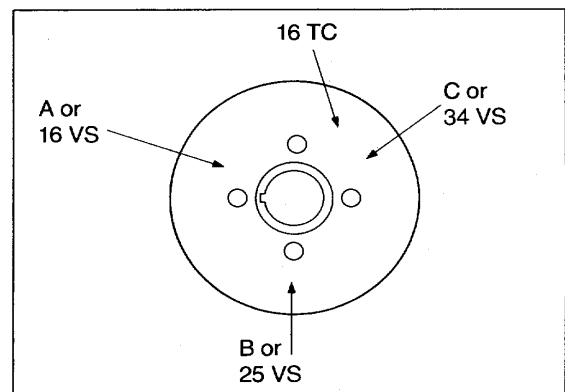

Fig. 2-42, (N114230). Accessory drive pulley marking - N-855
1. Bar the engine until "A" or 1-6 "VS" mark on the pulley, Fig. 2-42, is aligned with the pointer on the gear case cover. In this position, both valve rocker levers for cylinder No. 5 must be free (valves closed). The injector plunger for cylinder No. 3 must be at top of its travel; if not, bar the engine 360 degrees, realign the mark with the pointer.